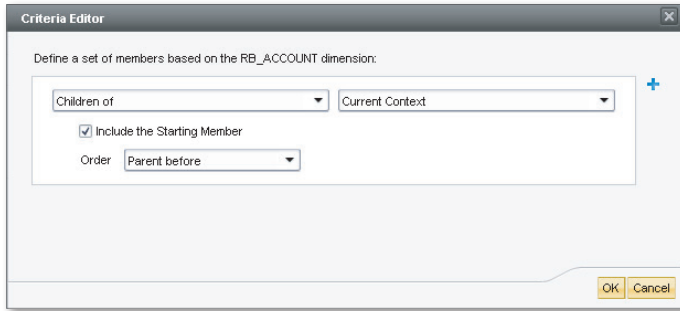

Figure 5.35 Creating a Web Report—Part D
6. This opens the new dialog box **CRITERIA EDITOR** to select the members and relationships (Figure 5.35). Similarly, select the members and relationships for the **TIME** dimension that is displayed in the column.